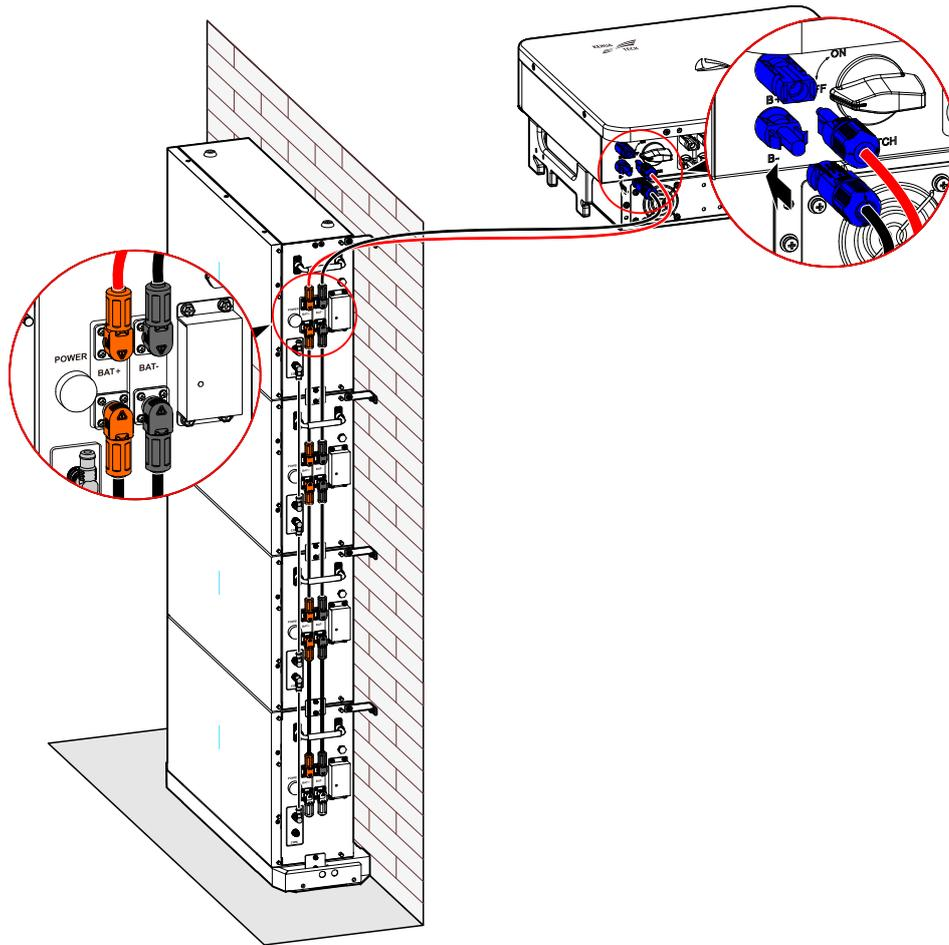
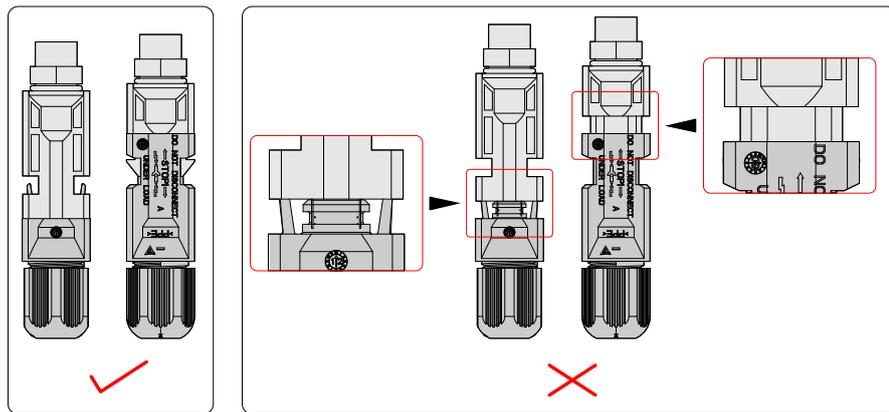

Figure3-38 Battery wires connection
Figure3-39 Energy storage connector installation method
Step 5 If the polarity is correct, insert the positive and negative energy storage connectors of battery wires into the "B+" and "B-" terminals at the bottom of the inverter. When you hear a click, it means the connection is good (as shown in Figure3-39). Insert the positive and negative battery connectors of battery wires into the "B+" and "B-" terminals at the right side of the battery box. When you hear a click, it means the connection is good, as shown in Figure3-38.